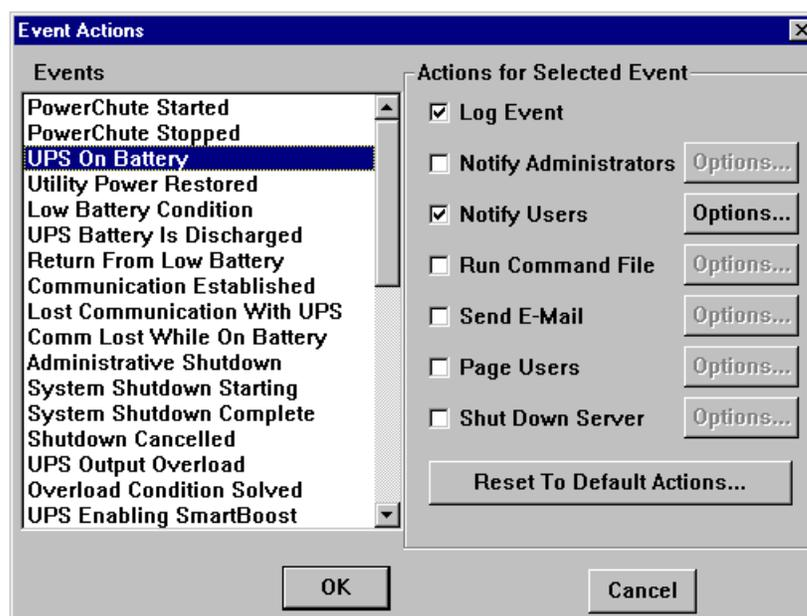

Figure 112. Configuring the UPS On Battery Event
1. Click on **Configuration** → **Event Actions**. Figure 112 appears.
1. From the Event Actions window (Figure 112 on page 153), select the **Low Battery Condition** event.